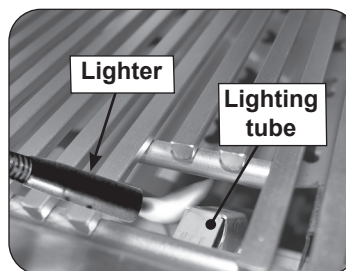
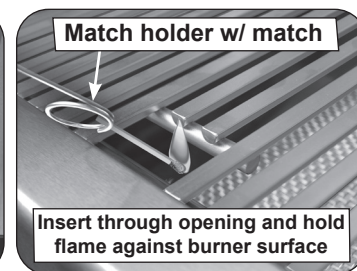

Fig. 37-2 Manual lighting via lighting tube
Fig. 37-3 Manual lighting via match holder
**CAUTION:** Always wait five (5) minutes for gas to clear after any unsuccessful lighting attempt.
2. Insert either a burning long-barrel butane lighter or a burning long-stem match through the cooking grid opening to the top of the lighting tube (see Fig. 37-2). For backburners or infrared burners, hold the flame against the surface of the backburner/infrared burner. Grills equipped with an infrared burner include a wire extension match holder (attached to drip tray) to assist with manual lighting (see Fig. 37-3).
4. If the burner does not light within five (5) seconds of turning the control knob, **immediately depress the knob and turn the valve to OFF**. WAIT FIVE (5) MINUTES before repeating steps 2 through 4 of the MANUAL LIGHTING instructions.